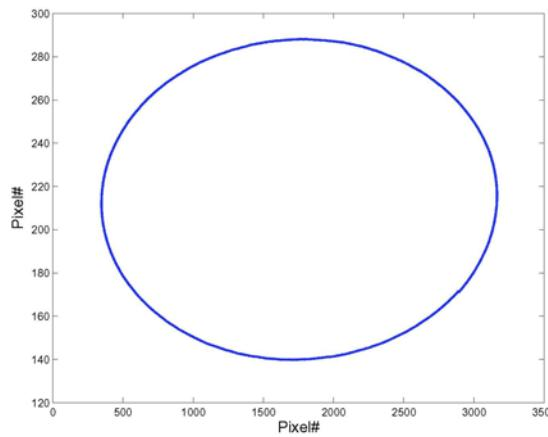

Figure 7-91
a.) Graphs 1, 2, 12 and 13 should be perfect ellipses (Figure 7-91). If not, the threshold value may have to be changed. Contact GE Healthcare.